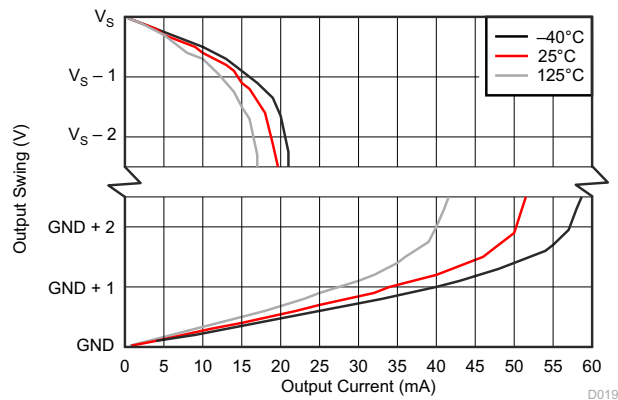

Figure 7-19. Output Voltage Swing vs. Output Current
(1) RTI = referred-to-input.
(2) Offset voltage is obtained by linear extrapolation to $V_{SENSE} = 0\text{ V}$ with $V_{SENSE} = 10\%$ to 90% of full-scale-range.
(3) See Figure 7-19.
(4) Swing specifications are tested with an overdriven input condition.